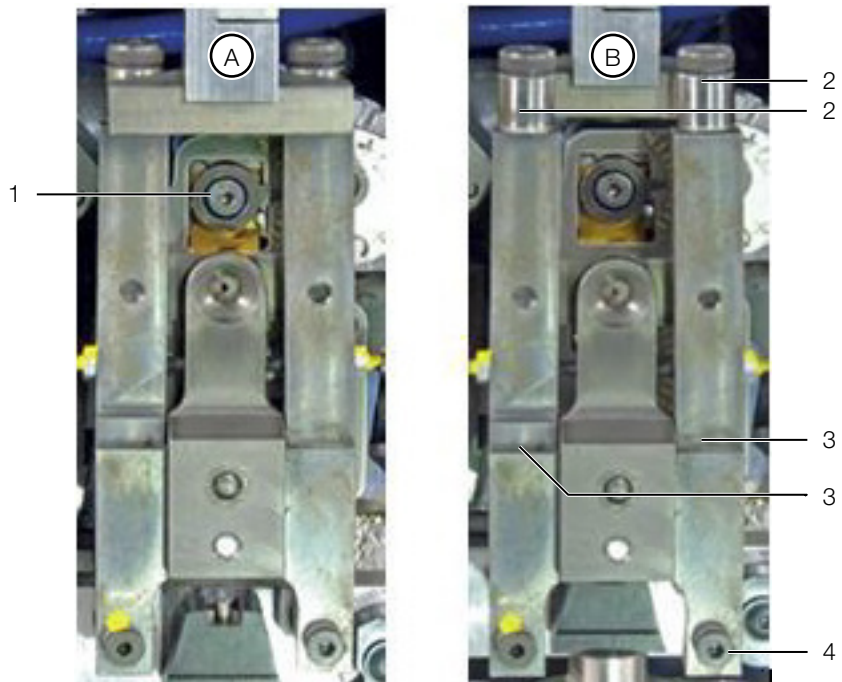

Fig. 18: Stranded wire fixing unit in operating position (A) and pulled forward (B)
- Clean the insertion funnel (fig. 18, item 1) with a brush.
- Pull the stranded wire fixing unit forwards (fig. 18, item B).
- Check whether the rollers (fig. 18, item 2) are able to move freely.
- Oil the rotation points (fig. 18, item 3) of the stranded wire fixing unit.
- Ensure that the stranded wire fixing unit is located in the front position (fig. 18, item B).
- Remove the bottom right screw of the stranded wire fixing unit (fig. 18, item 4).